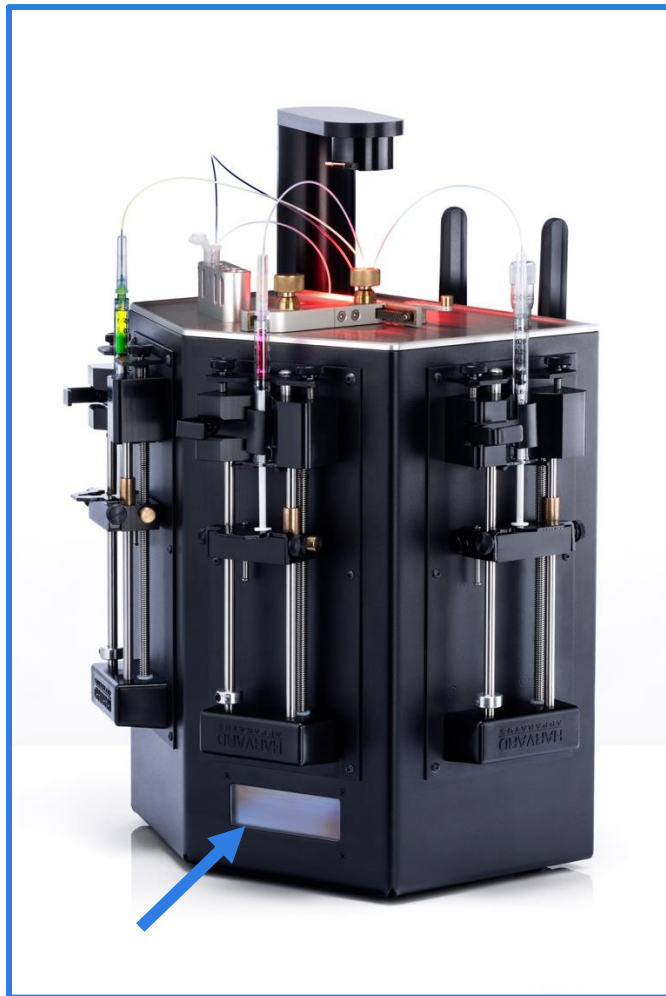

Figure 2. Onyx platform. Blue arrow indicates screen.
7. Find your device IP address on the screen which is located on the front of the device (*Fig. 2*).